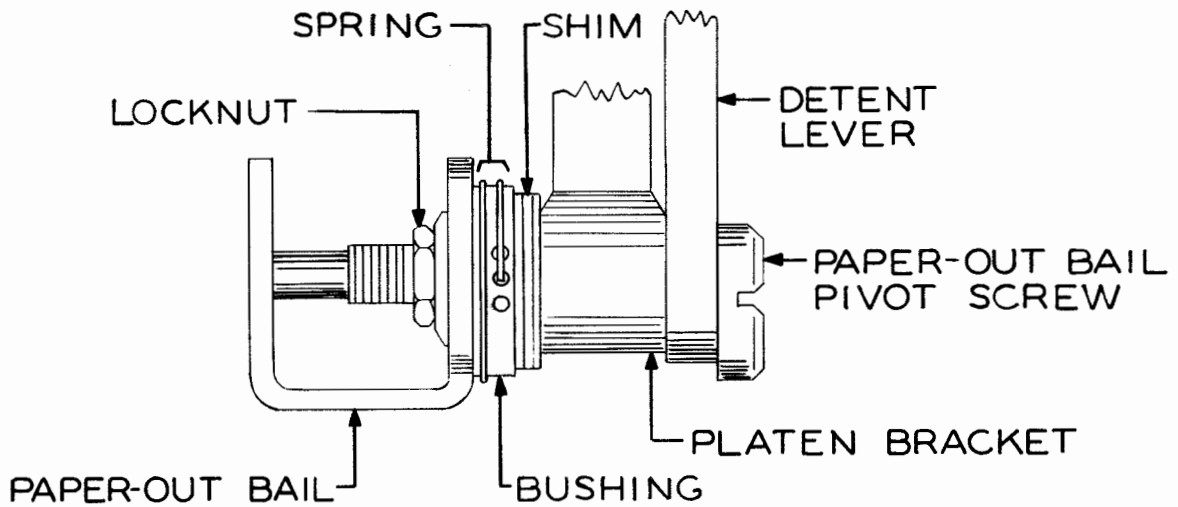

Figure 7
3.04 Paper-out-bail Spring: The spring should be anchored in the center of the three holes in the bushing. See Figure 7.